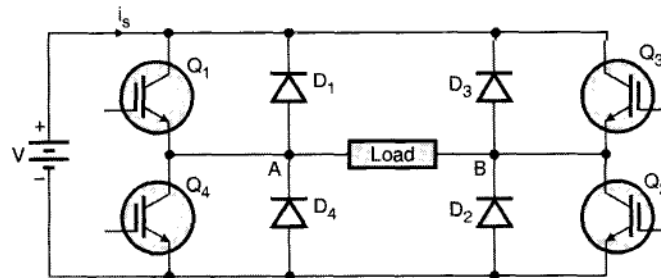

Fig. 3.10 : Single phase full bridge inverter
- A single phase bridge inverter is shown in Fig. 3.10. It consists of four IGBTs. These IGBTs are turned on and off in pairs of Q_1 Q_2 and Q_3 Q_4 .